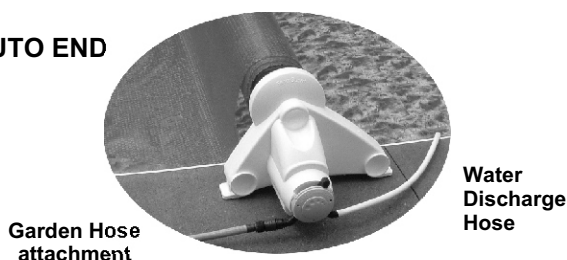

Fig. 13
1. Using Quick-Connect (provided), attach your garden hose onto left side of Auto End (Fig. 13).